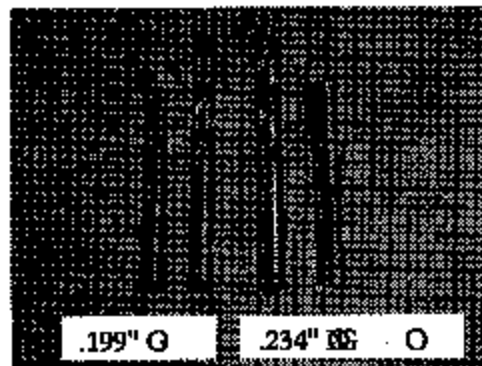

Figure 2
3. Obtain the following gauge pin, or twist drill sizes with no burrs on the shank end (end of the drill normally held in a drill chuck) to use as check gauges. See Figure 2.